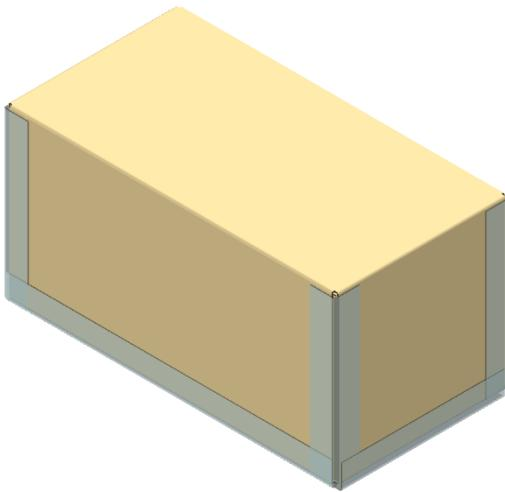

Figure 5: Closure of FPF box
- **PPF** (Five Panel Folder) See Figure 5